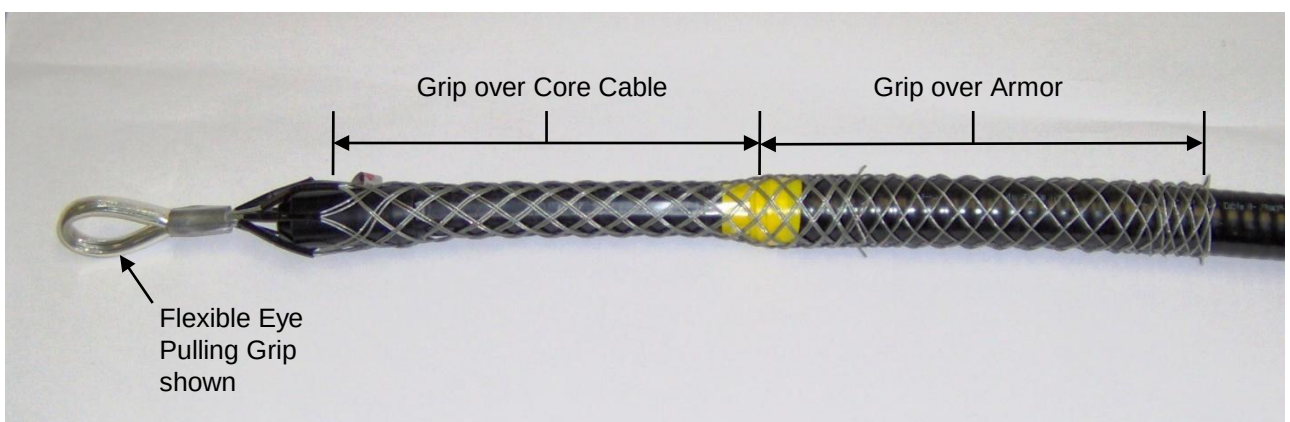

Figure 35
26.7 Apply a tape wrap around the end of the armor and over the core cable to keep water, mud, etc. from getting under the armor during the pull-in operation. **Refer to Fig. 35**